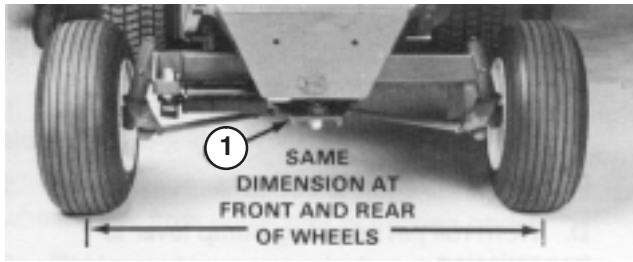

Figure 55
2. Loosen the jam nuts on both tie rods. Adjust both tie rods until center-to-center distance at front and back of rear wheels is the same (Fig. 55).